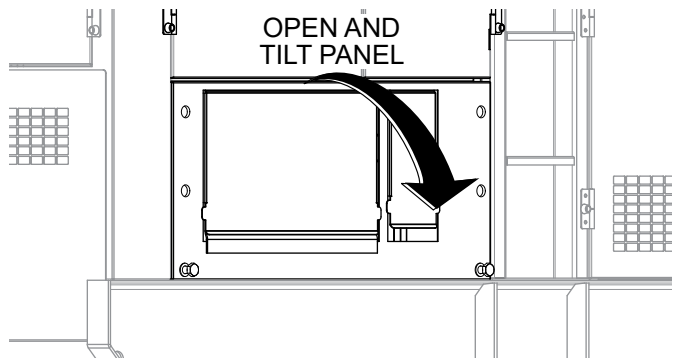

Figure 3. Camlok Panel Access
4. Open the output panel and tilt it outward (Figure 3) to provide interior access to the camlok panel. Wedge a wood block or similar object in between the panel and the frame to keep the panel open.